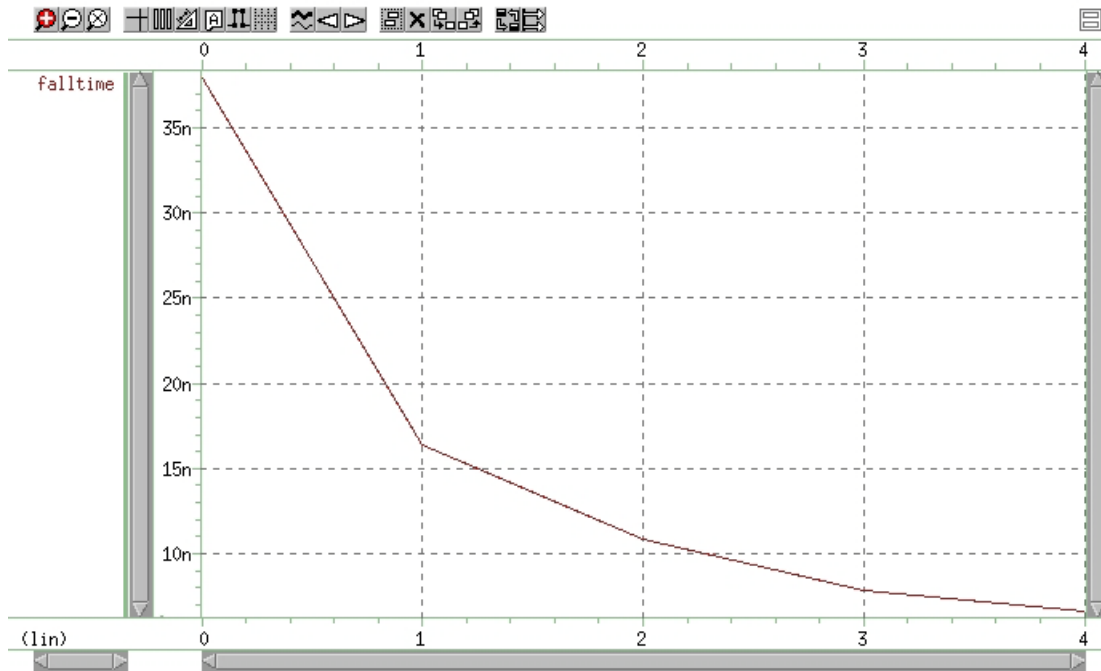

Figure 288 Plot of Measured Variable falltime vs. Amplifier Input Voltage
17. Left-click on the signal *falltime*. Drag and drop the selected signal into the WaveView panel. You should see a plot similar to the one shown in Figure 288 on page 1192.